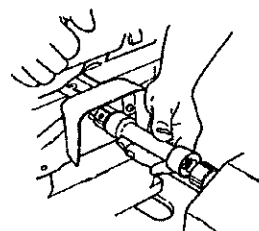

Fig.C-2
5. Place the power coupler (71) onto the Jointer's drive shaft hub, as in Fig.C-2.